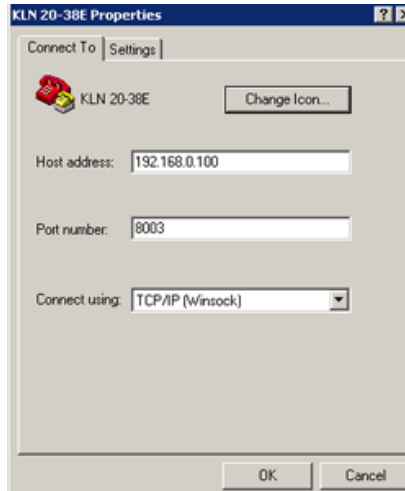

FIGURE 3-8. HYPER TERMINAL PROPERTIES
- a. If a Message box opens that says “Unable to Connect to 192.168.0.100 port 8003” click OK, then click File - Properties at the top menu bar of the HyperTerminal window to open the Properties Dialog Box (Figure 3-8).